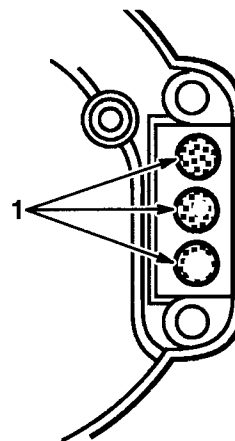

Figure 33
5. Rotate crankshaft slowly until piston covers exhaust ports (Fig. 33).